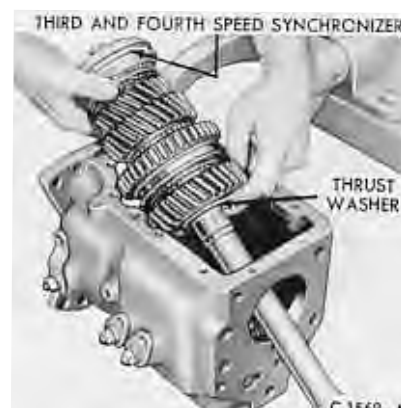

FIG. 8—Removing Output Shaft Assembly
17. Support the thrust washer and first-speed gear to prevent them from sliding off the shaft, then lift the output shaft assembly from the case as shown in Fig. 8.